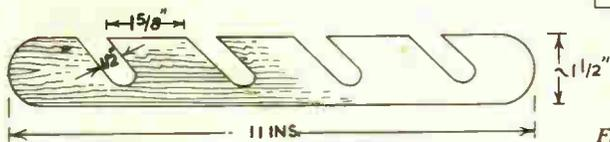

Fig. 4
The notches giving the adjustable positions of the backrest are formed by cutting pieces of $\frac{1}{4}$ in. wood as shown in Fig. 4. Glue and screw these to the inside of pieces (A) as shown in Fig. 1 side view.